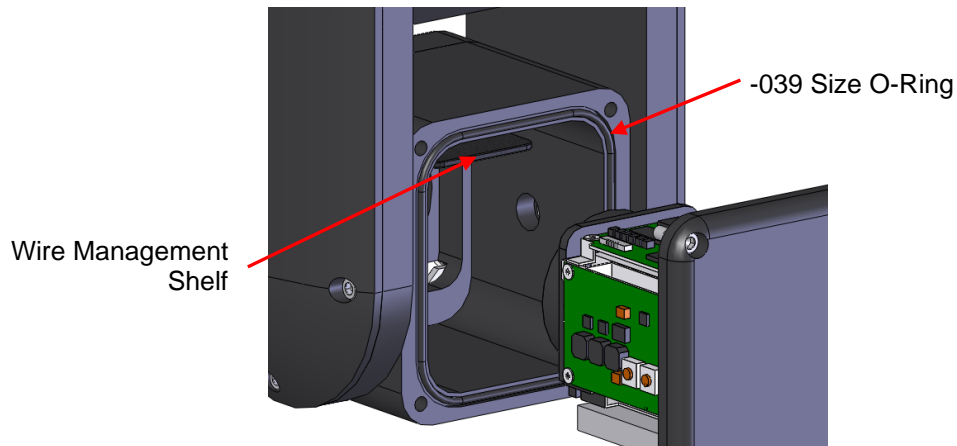

Figure 11: Module Housing O-Ring Replacement
6. A replacement for the -039 size O-ring shown in Figure 11 is included with the replacement module. Replacing this O-ring at this time is recommended. Make sure the O-ring groove is free of dirt and debris. Lubricate the new O-ring with silicone lubricant and insert into the groove as shown.
3. Reconnect the connector to the new LED Plate. When putting the LED Plate back on the camera module housing, make sure to slide in the wire management shelf (see Figure 11) under the wires going to the camera module. Be careful not to damage the wires or pull out the camera's connections.